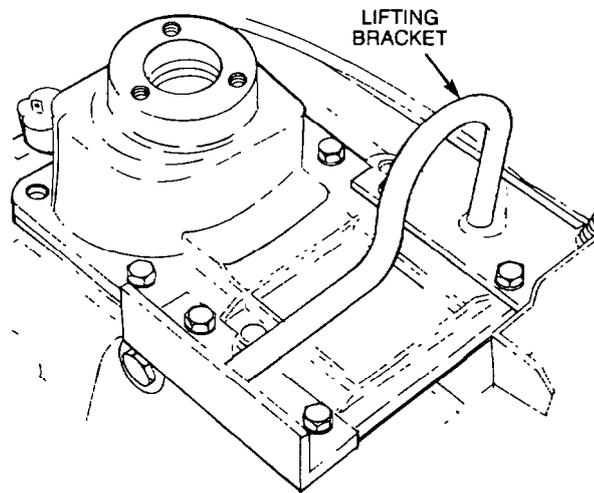

Figure 47 Transmission Lifting Bracket
- l. Secure the special lifting bracket RO1001 to the transmission with the bolts from the transfer case selector lever (Figure 47).
- a. Secure the special lifting bracket RO1001 to the transmission with the bolts that normally secure the transfer case selector lever (Figure 47).